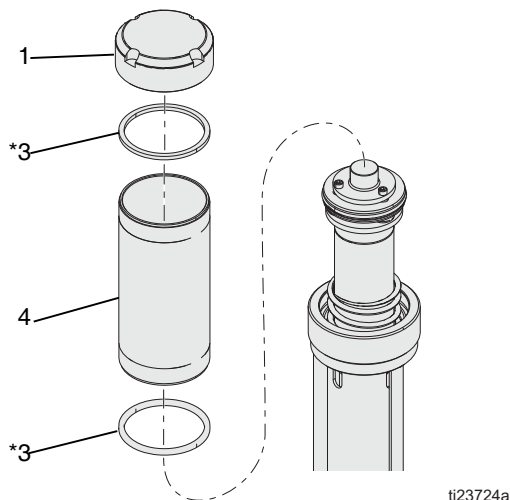

FIG. 10
2. Remove cap (1), cylinder (4), and square gaskets (3*). Inspect all parts, including spring under cap (not shown in FIG. 10) for damage and replace if necessary. See FIG. 10. Unscrew by hand or use a chain wrench to prevent distortion of the cylinder's shape.